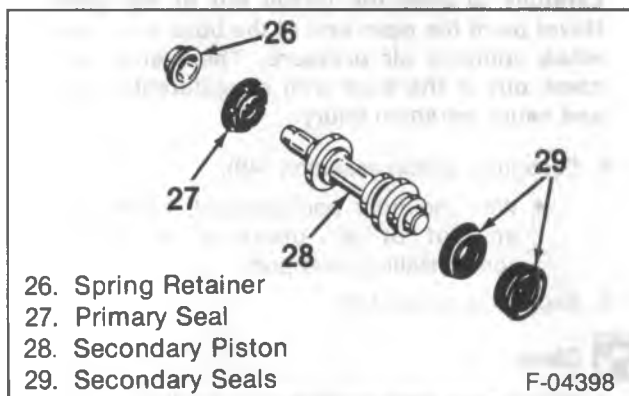
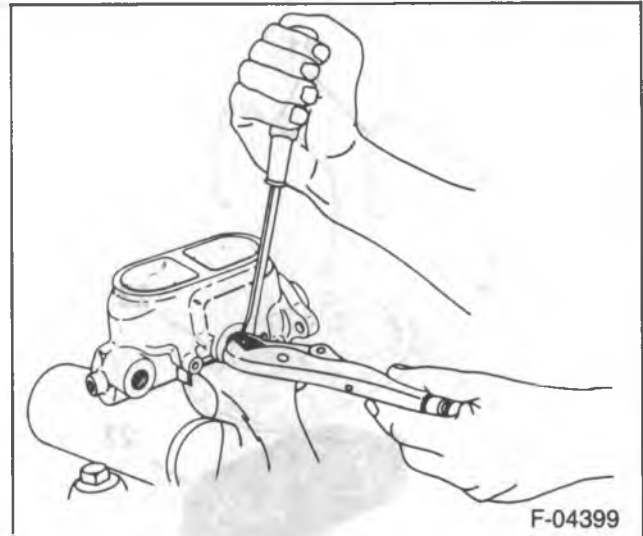

Figure 16—Secondary Piston Assembly
Figure 17—Removing Tube Seats
5. Secondary piston (28).
6. Secondary seals (29) from the secondary piston (28) (figure 16).
7. Spring retainer (26) and primary seal (27).
8. Spring (25).
9. Tube seats (if necessary) (figure 17).
1. Spring (25).
2. Primary seal (27) and spring retainer (26) onto the secondary piston (28) (figure 16).
3. Secondary seals (29) onto the secondary piston (28).
4. Secondary piston (28).